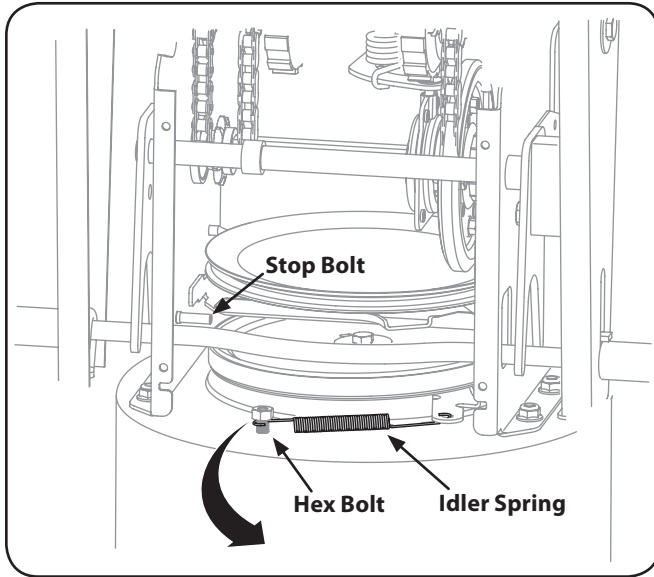

Figure 7-4
- Unhook the idler spring from the hex bolt on the auger housing. See Figure 7-4.
- Back out the stop bolt until the support bracket rests on the auger pulley. See Figure 7-4.